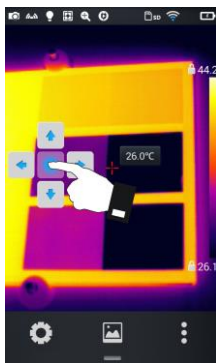

Figure 3
- tap the virtual round button to view the virtual cursors on screen (see Figure 3 below),